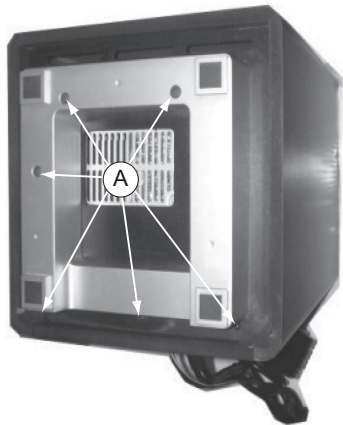

Figure 1
- 1) Loosen 6 screws "A" as shown in figure 1.